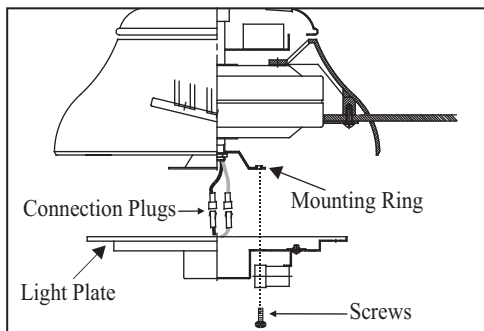

Figure 15
2. Connect the white wire connectors from the light kit and fan, follow the same procedure with the black wire connectors. (Figure 15)
3. Tuck connections neatly into mounting ring, place the key holes on the light plate over the 2 screws previously loosened from the mounting ring, turn light plate until it locks in place at the narrow section of the key holes. Secure by tightening the 2 screws previously loosened and the one previously removed. (Figure 15)